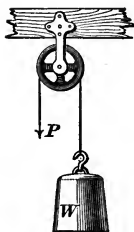

FIG. 28.
71. A **fixed pulley** is one whose block is not movable, as in Fig. 28. In this case, if the weight  $W$  be lifted by